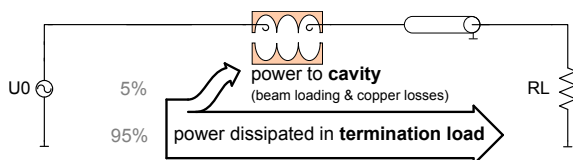

Fig. 1: Overview of a typical accelerator RF plant.
The necessity to recover power in RF-driven particle accelerators can be shown with the example of the SPS. It utilizes a travelling wave (tw.) cavity, in which the charged particles travel with the phase velocity on the crest of an electromagnetic wave. To ensure the tw. operation, it has to be terminated by a matched load resistor (RL), resulting in an RF architecture shown in Fig. 1. A small part of the power from the RF amplifier is transferred to the beam or dissipated in the cavity walls, while the biggest part is converted to heat in RL. The SPS is composed of 4 tw. cavities, each operated at an average RF-Power of 379 kw. Thus altogether 1500 kw of RF-Power is converted to heat continuously and has to be dissipated in the underground tunnel.